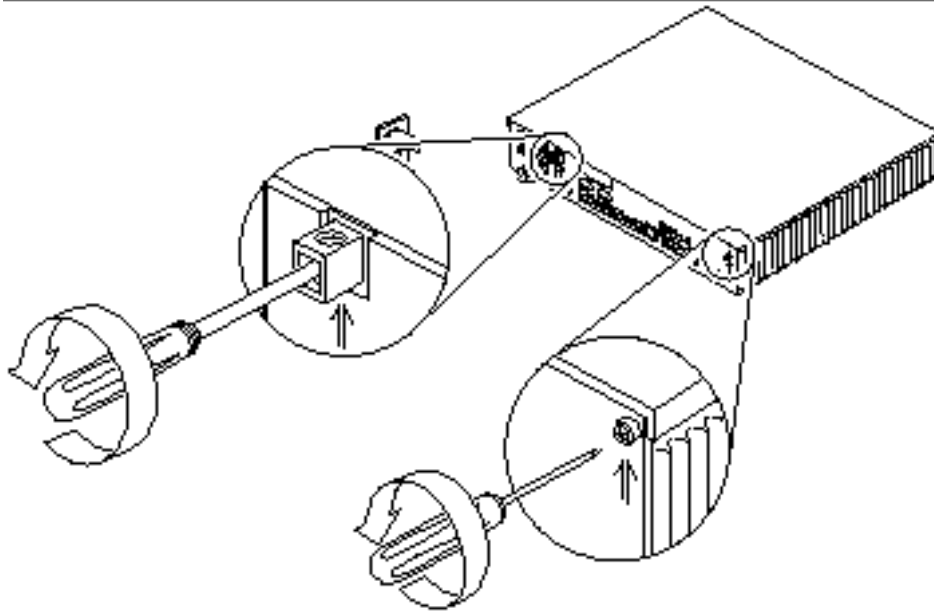

Figure 7-1 Removing the Rear Panel Cover Screws
2. Loosen the captive Phillips screw in the upper-right corner of the rear panel (see Figure 7-1).
3. Unscrew the Phillips screw that secures the lock block to the cover. Remove the lock block and put it aside (see Figure 7-1).